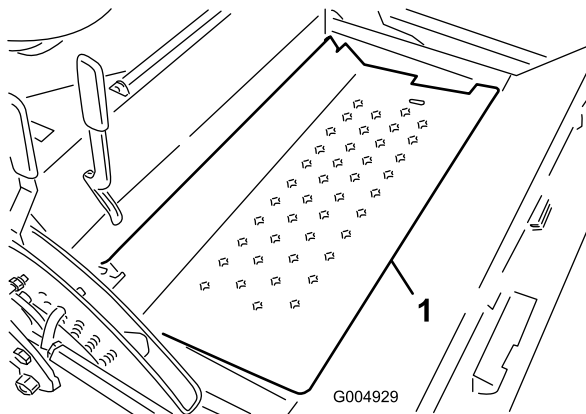

Figure 27
6. Pivot open the floor plate (Figure 27).